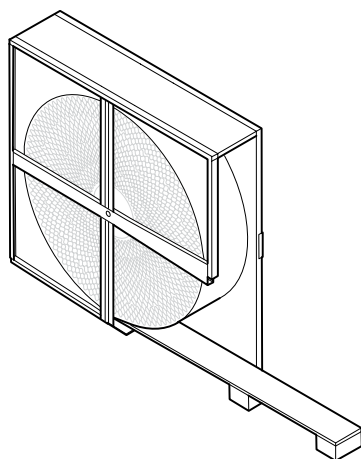

Fig. 45
B. See Fig. 45 Block up the rotor and back off the shaft retaining screws. Then dismantle one centre beam. Withdraw the rotor shaft. The rotor can now be rolled out of the cassette.